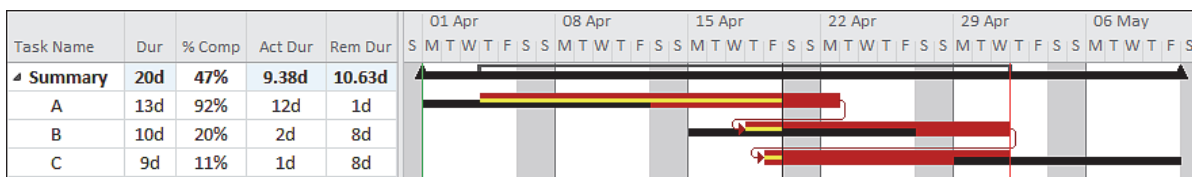

Figure 14 – Progressed Impacted with Actuals Microsoft Project schedule.
Figure 14 below has been updated correctly by using the following process:
- Display the **Baseline**, it is displayed as lower black bars in Figure 14 below,